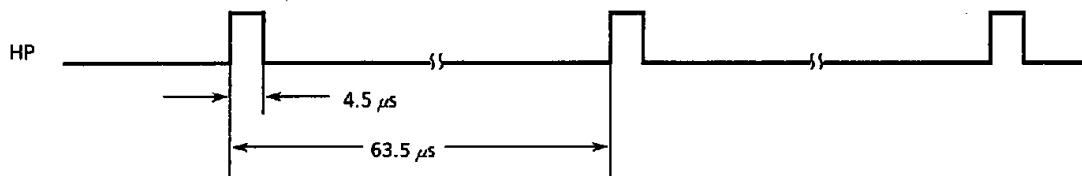

Figure 3.14.6 Wave form of HP signal output
H.Pulse Generator generates serrated pulse (HP signal) to mix with pseudo-V.SYNC. The timing to mix pseudo-V.SYNC with HP signal is controlled by TPG02 from the Timing pulse generator 0 (TPG0) (Refer to section 3.15 Pseudo-sync signal output circuit). By setting <HSEN> in CSYNC control register (CSYNCR) to "1", HP signal can be synchronized with the H.SYNC (3.0 μs) signal, outputted from H/V Separator, during TPG02 is "L". In case that <HSEN> is "0", HP signal is not synchronized with C.SYNC signal input. Wave form of the HP signal output is shown in Figure 3.14.6.